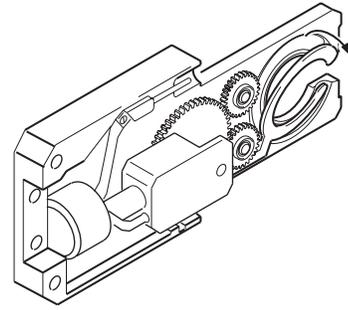

Figure 30 *Lifting the Weld Head Brush for Cleaning*
10. See Figure 30. Hold the micro weld head as shown. Gently lift the brush from the brush side housing noted in the figure and rotate it outward a few degrees.